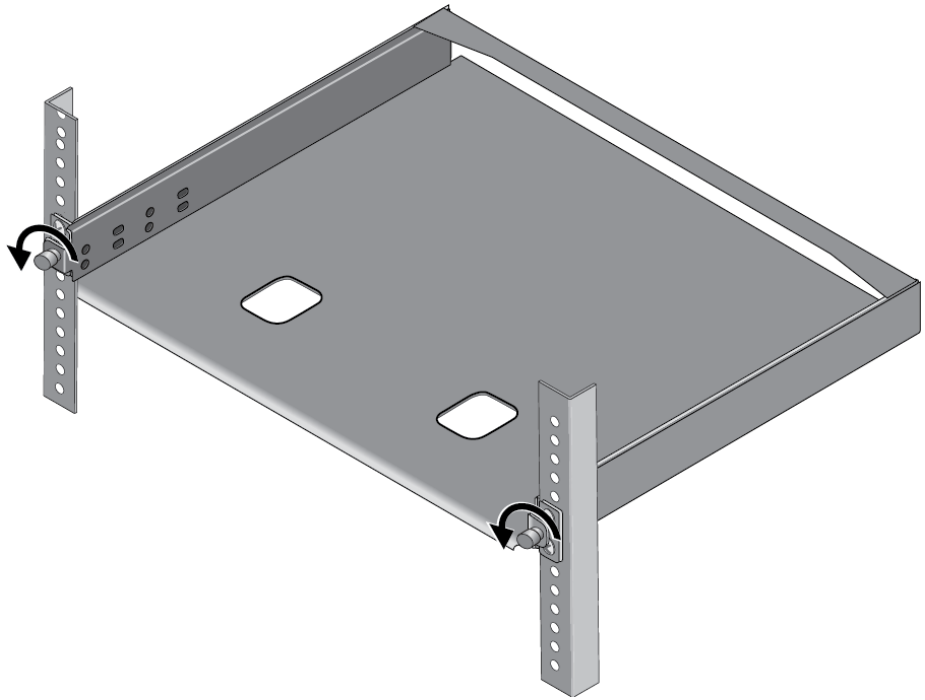

Figure 29. Loosening the Two Thumbscrews on the Front of the AT-RKMT-J15 Bracket
2. Loosen the two thumbscrews on the front of the bracket. Refer to Figure 29.